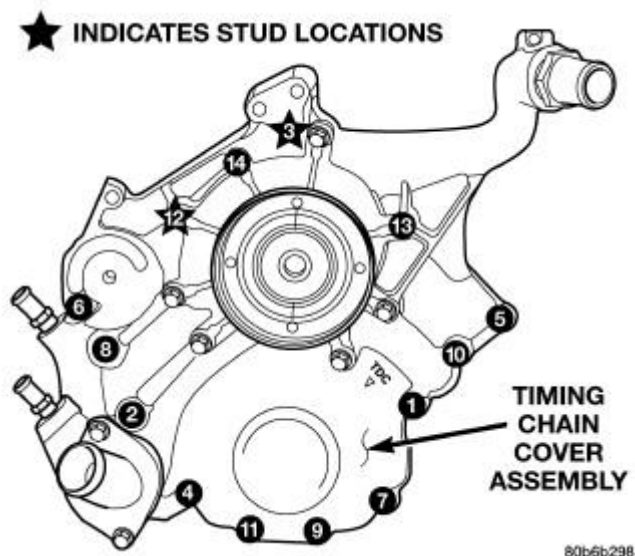

Fig. 181: Timing Chain Cover Assembly Removal/Tightening Sequence
4. Install cover. Tighten fasteners in sequence as shown in illustration in to 58 N.m (43 ft. lbs.). Refer to **Fig. 181**.